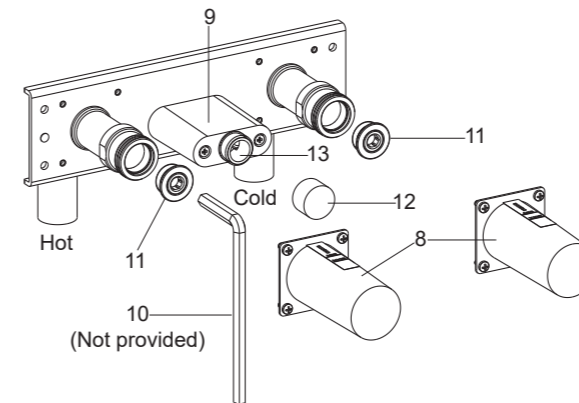

Fig. 3
As Fig. 3 shown, uninstall the protectors(8) with screwdriver(not provided). Remove the plugs(11) with 8mm hex wrench (10, not provided). Flush water supply pipes for about one minute to remove any debris. Reinstall the plugs. Remove the protector cap(12) from the protector(9), and connect the connection(13) with one waterpipe(not provided). Insert one G1/2" plug(not provided) into the G1/2" female ell(6).